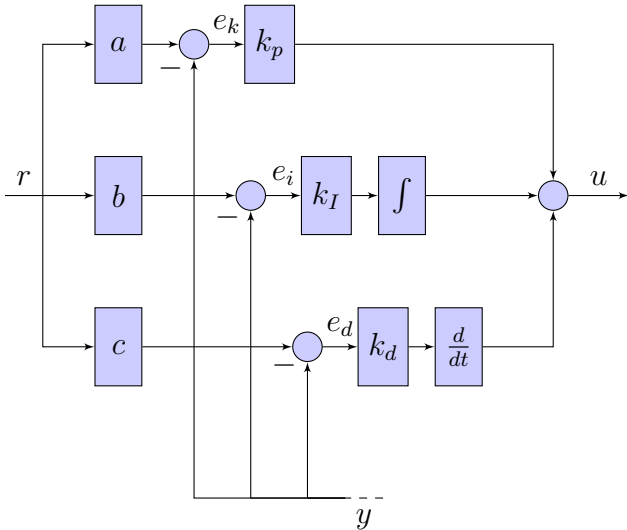

Figure 1: Illustration of multiplication factors a , b , c used to scale the reference signal.
- b) You may have noticed that tuning a controller for a non-negligible step response can be difficult. You should now design a PID controller which has setpoint weights a , b , c multiplied to the reference before computing the error as depicted in figure 1. Augment the `tControlPID.c` file to allow for this rescaling. Alternatively, you could create new files `tControlPIDabc.c` and `tControlPIDabc.h` to write your code and also substitute the controller in your `tControl.c` file.